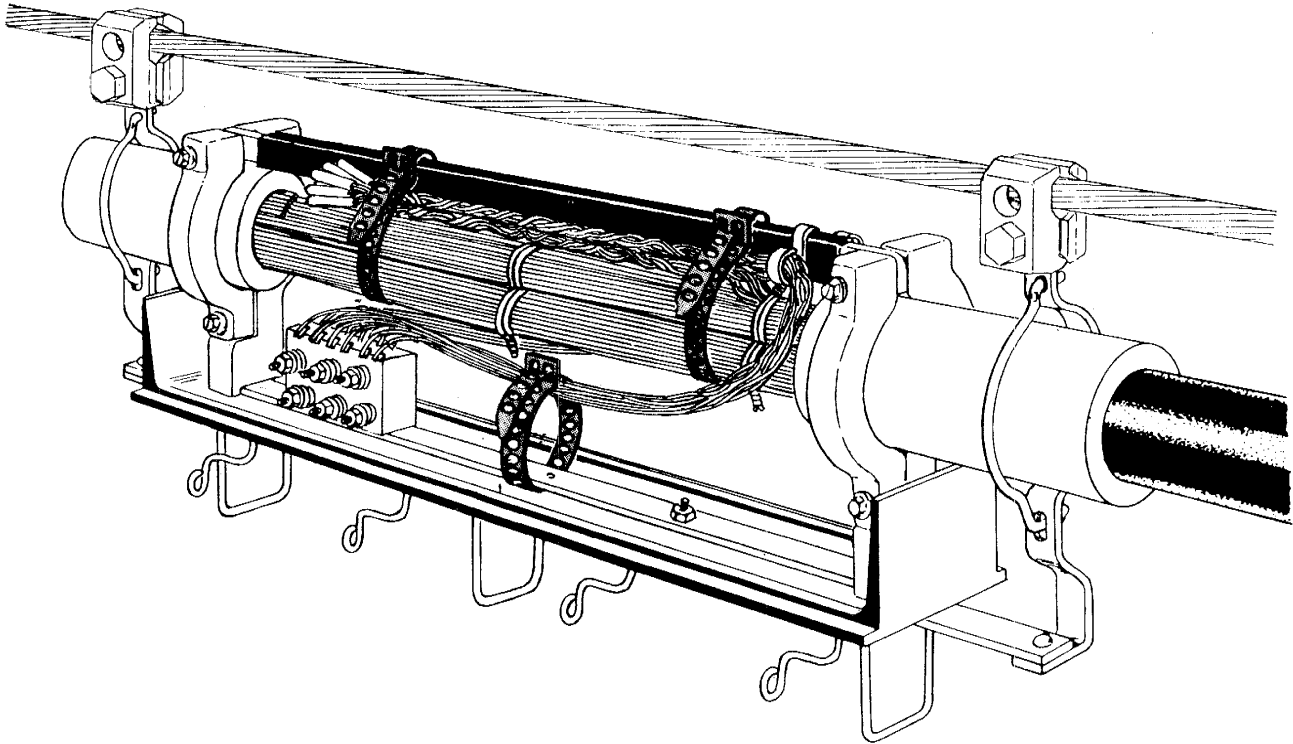

Fig. 14 – Completed Termination of Three Cable Pairs
5.11 Fig. 14 illustrates three terminated cable pairs held in place with B Cable Ties.